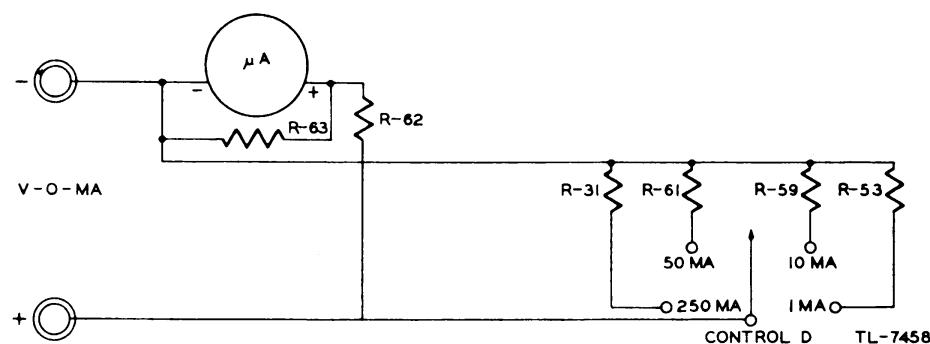

FIG. 17. MODEL 104 COMBINATION TESTER, SIMPLIFIED D-C MILLIAMMETER CIRCUIT
d. *Combination Tester as D-C Milliammeter* (fig. 17). Control D inserts the correct shunt resistor in parallel with the indicating meter, so that for each millampere scale the proper resistor is in the circuit.